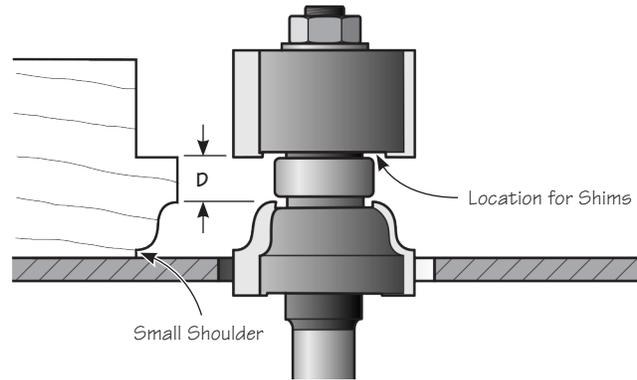

Figure 8: Set-up for sticking cut.
2. Assemble the router bit in the “sticking cut” configuration (see **Figure 8**). Install the bit in a table-mounted router and run a length of scrap through to test the cutter spacing (dimension D shown in **Figure 8**).
4. Adjust the height so that a small shoulder will be cut on the inner face of the frame pieces (see **Figure 8**). Set the router table fence flush with the pilot bearing. Rout the inner edge of all frame pieces.